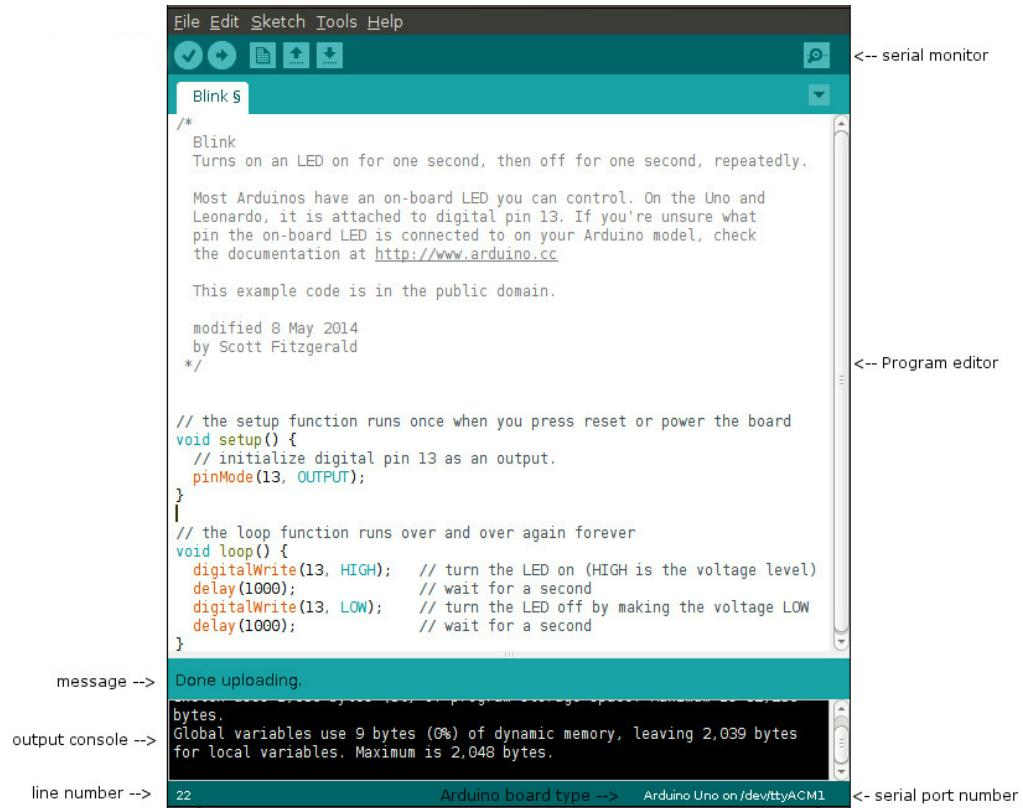

Figure 3.6: Arduino IDE
The Arduino development environment, as shown in Fig. 3.6, consists of a text editor for writing code, a message area, a text console, a toolbar with buttons for common functions, and a series of menus. It connects to the Arduino hardware to upload programs and communicate with them.
6. Serial Monitor: Opens the serial port window - the location of this is shown in the top right-hand corner of Fig. 3.6
**Arduino Code 3.1** First 10 lines of the Arduino firmware. Available at [Origin/tools/arduino-firmware/arduino-firmware.ino](https://github.com/arduino/arduino-firmware/blob/main/arduino-firmware.ino), see Footnote 2 on page 2. Following the steps given in sections 3.1.3 and 3.1.4, open this code in Arduino IDE and upload it to Arduino Uno. Once the upload is successful, you should expect a success message at the bottom of Arduino IDE, as shown in Fig. 3.6.